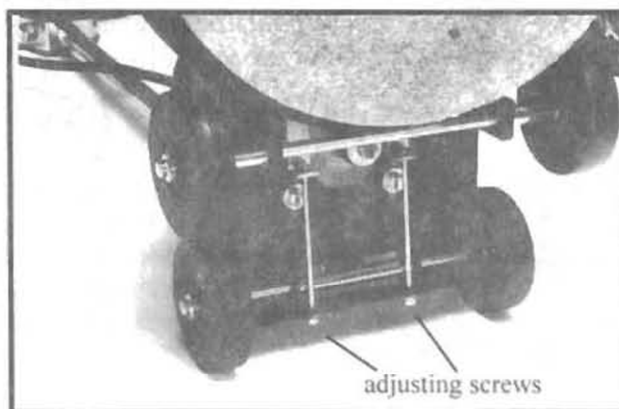

fig. 8
1. Loosen the bolts holding the drive motor to the frame; do not remove (fig 8).